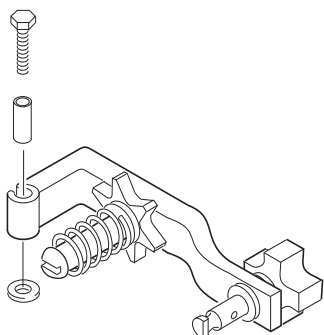

Figure 1
5. Remove the pressure arm by removing the hex head bolt from the gearbox. The bolt, pivot tube, and thin spacer will be required for the new tension arm. Remove these parts from the original tension arm. (See Figure 1).